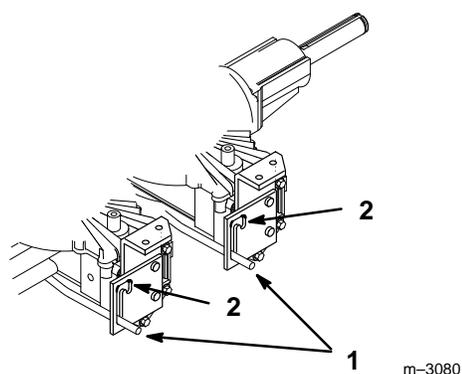

Figure 12
2. Lift the drive control rods (dump valves), on front of hydrostatic pumps, up and latch into hooked slot. This allows hydraulic fluid to by-pass the pump enabling the wheels to turn (Fig. 12).
1. Unhook the drive control rods (dump valves) and drop down into slot to operate (Fig. 12).